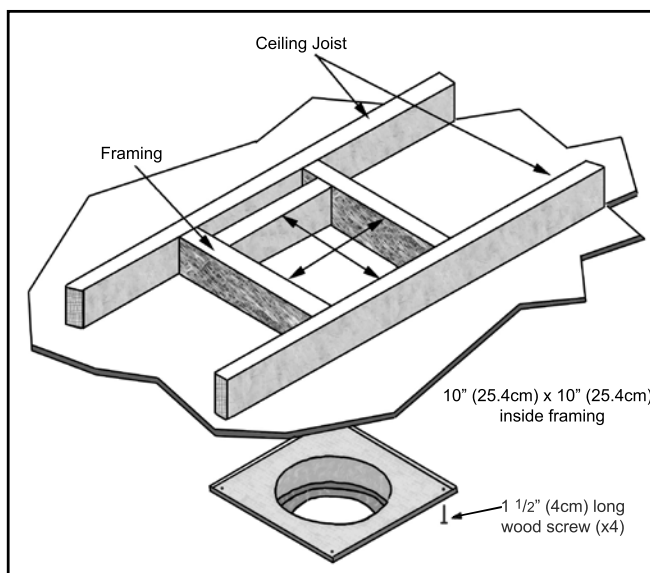
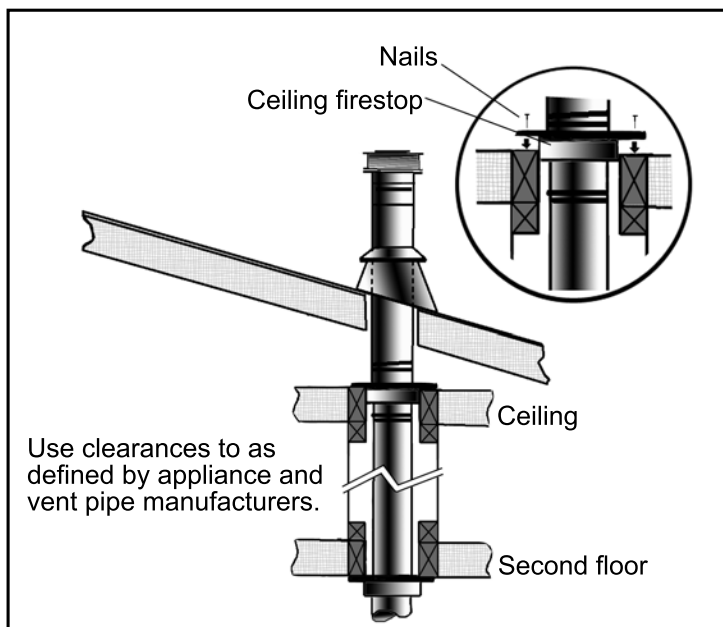

Figure 30: Wall Framing for Hole for Vertical Installation.
Figure 34: Multi-Story Vent Pipe Installation.
3. To install the Round Support Box/Wall Thimble in a flat ceiling, cut a 10" square hole in the ceiling, centered in the hole drilled in Step 2. Frame the hole as shown in Figure 30.
7. Slip the flashing over the pipe section protruding through the roof. Secure the base of the flashing to the roof with roofing nails. Use a non-hardening sealant between the uphill edge of the flashing and the roof. Insure the roofing material overlaps the top edge of the flashing as shown in Figure 30. Verify that you have at least the minimum clearance to combustibles at the roof line.
- (c) For multi story installations. A ceiling firestop is required at the second floor, and any subsequent floors (see Figure 34). The opening should be framed to 10" (25.4 cm) x 10" (25.4 cm) inside dimensions, in the same manner as shown in Figure 30.